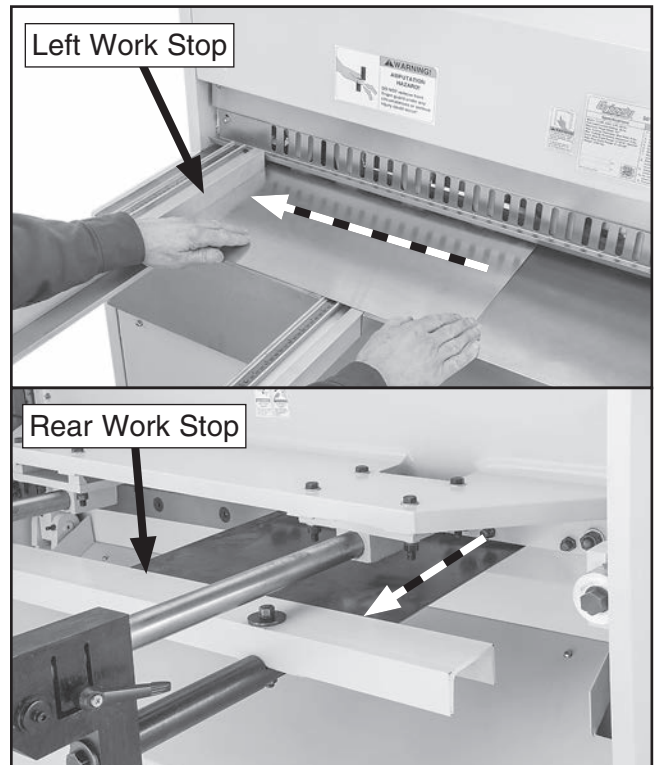

Figure 32. Properly placing workpiece against left work stop and rear work stop for cut.
4. Square workpiece against left work stop, then push workpiece against rear work stop, as shown in **Figure 32**.